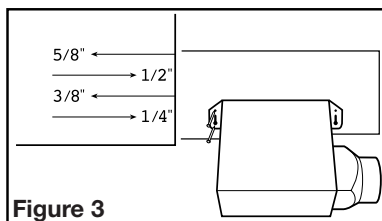
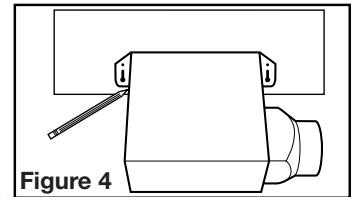

Figure 3
Figure 4
- Using the gauge on the fan's housing (Figure 3), line up housing so that it will be flush with the finished ceiling or wall. Position the fan so that the tabs rest flat against the joist or stud and secure with four nails (not provided) to ensure proper installation.
- Position housing against the joist or stud and trace an outline of the housing onto the ceiling/wall material (Figure 4). Set housing aside and cut opening, being careful not to cut or damage any electrical or other hidden utilities. Place housing next to the joist or stud and insure that it is flush with the finished ceiling. Secure with four nails (not provided) to ensure proper installation (Figure 3).